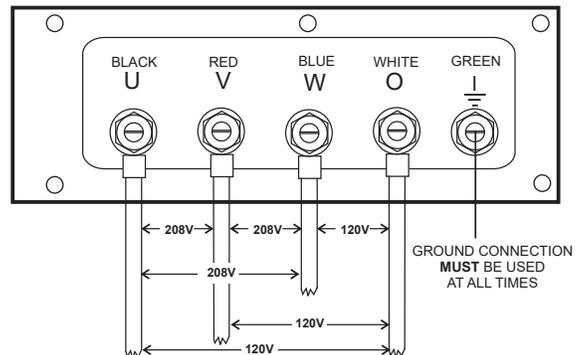

Figure 20. UVWO Terminal Lugs (3-Phase 208-Volt / 1-Phase 120-Volt Connections)
2. Connect the load wires to the **UVWO terminal lugs** as shown in Figure 20.